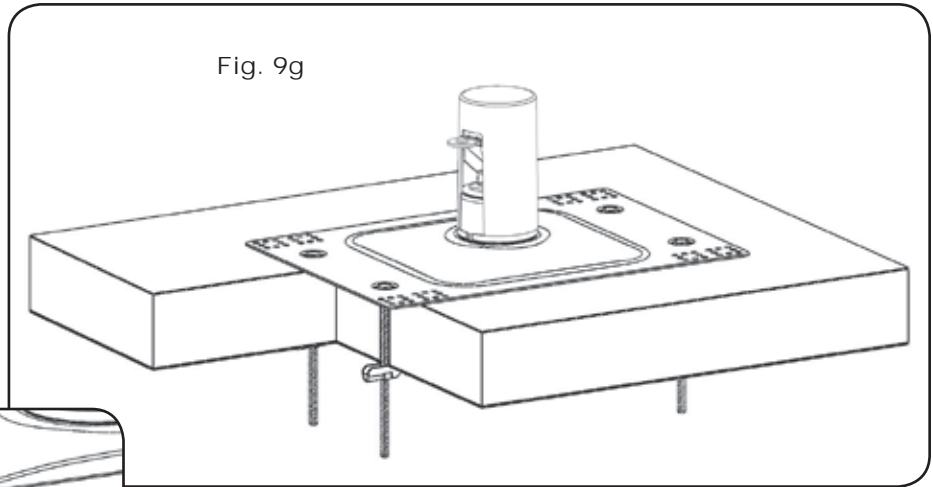

Fig. 9g
11. Once toggle is fully drawn up and seated (see Fig. 9g and 9h), torque to approximately 10-15 ft.lbs (14-20Nm). Repeat for other three toggle bolt assemblies.